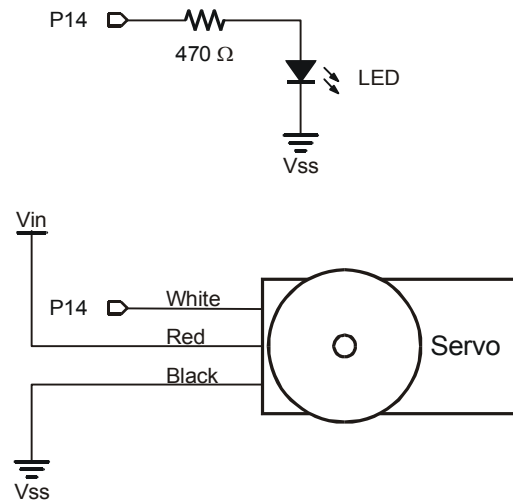

Figure 4-12
Figure 4-12 shows the schematic for the servo and LED circuits on the Board of Education Rev B. The instructions that come after this figure will show you how to safely build this circuit on your Board of Education Rev B.
- √ Build the LED circuit shown in Figure 4-12.